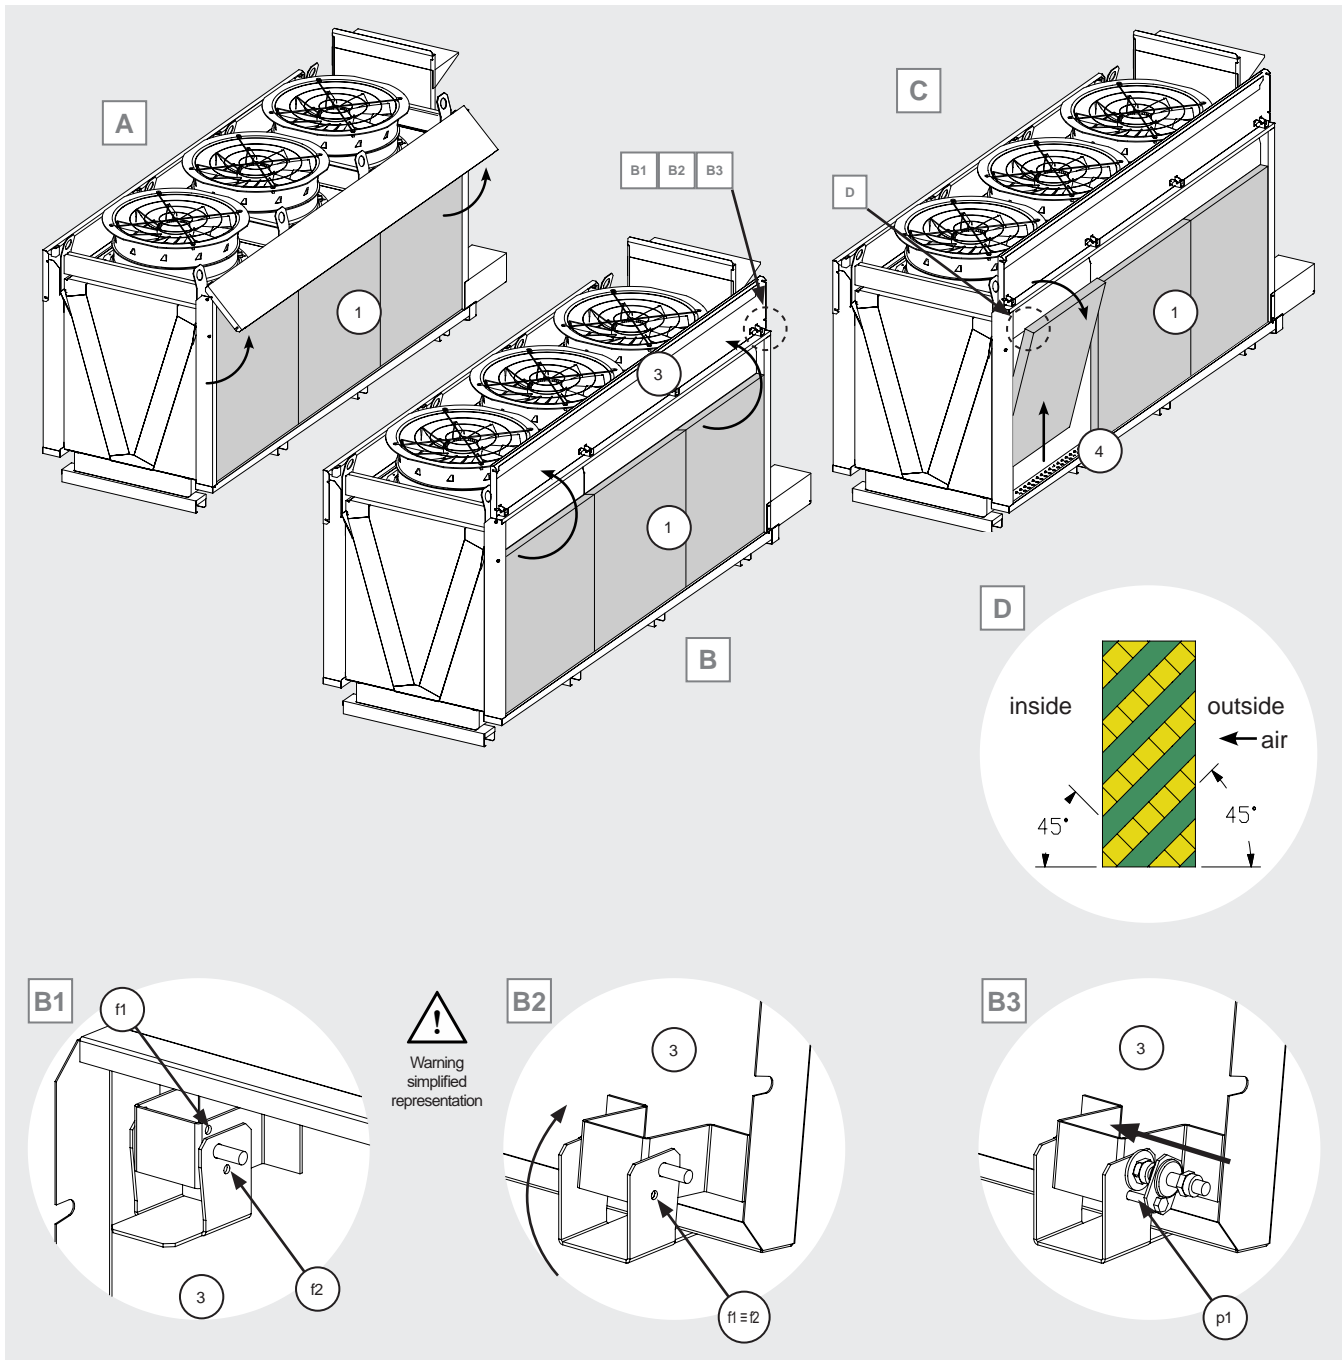
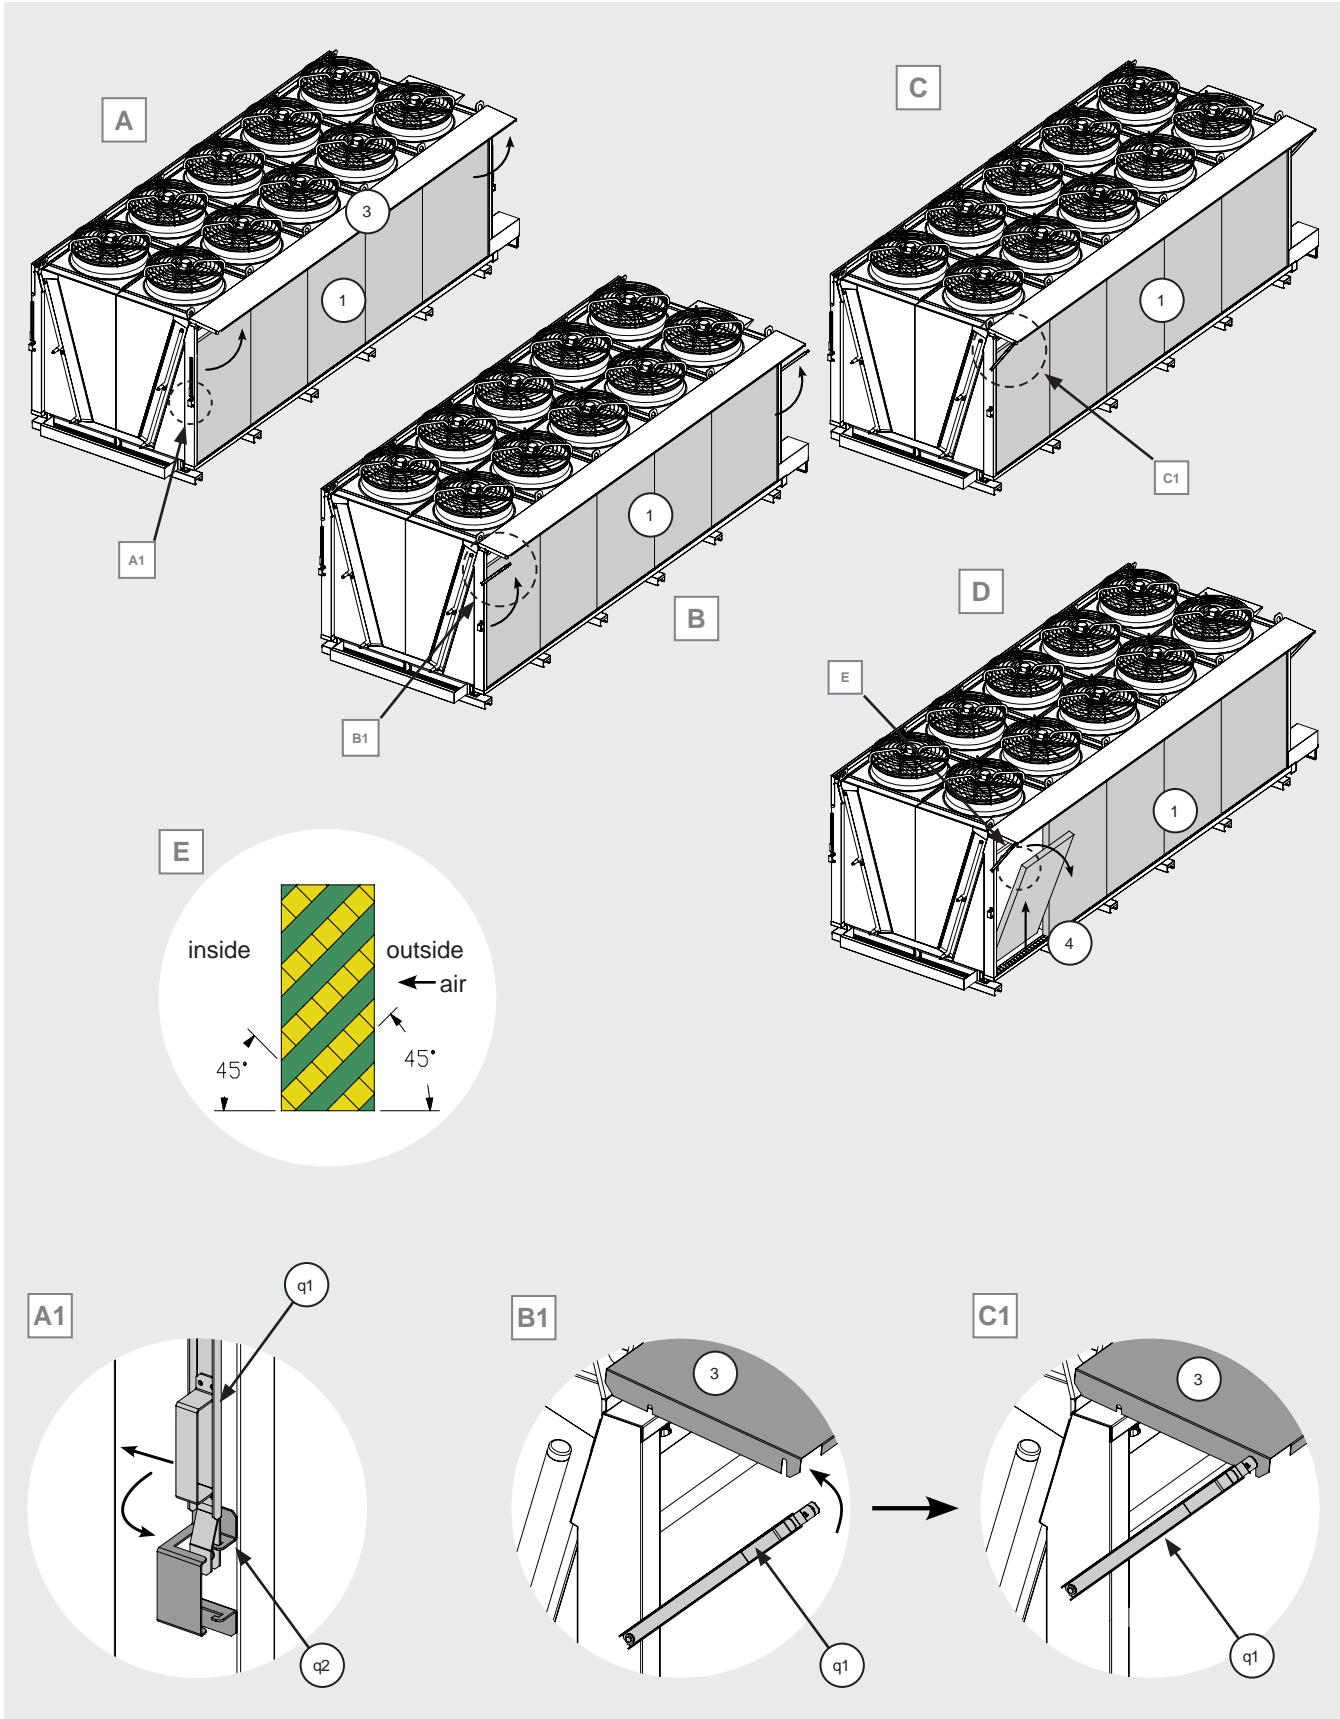

Figure 21
Figure 22
Lift up the cover (3) of the nozzle compartment. See Figure 21 A and B. Pay attention to the details in Figure 21 B1, B2, B3. Figure 21 B1 and Figure 21 B2 are simplified for explanatory purposes. Observe Figure 21 B1: a hinge at the end of the cover (3) is equipped with a system that prevents the cover (3) from closing accidentally. The hinge has two holes (f1) and (f2). Turn the cover (3) until the two holes match, as shown in Figure 21 B2. Now insert the pin (p1) into the two holes and lock the cover (3) in place. Before working on the model, ensure that the cover (3) is firmly in place and cannot close accidentally. Danger of hitting your hands or head.
Lift the cover (3) of the nozzle compartment. See Figure 22 A and B. Detach the bracket (q1) from the support (q2) and rotate it upwards, see Figure 22 A1. Insert the pin of the bracket (q1) into the appropriate slot of the cover (3), see Figure 22 B and C and details B1 and C1. Lock the cover (3) in position. Before operating on the model, ensure that the cover (3) is securely in place and cannot accidentally close. Risk of hand or head injury.
12.11.9 Pull out the outer panels (1): lift them vertically out of the lower guide (4) and then pull them outwards. See Figure 21 C and Figure 22 D. Pay attention to the installation orientation of the panels, see Figure 21 D and Figure 22 E.